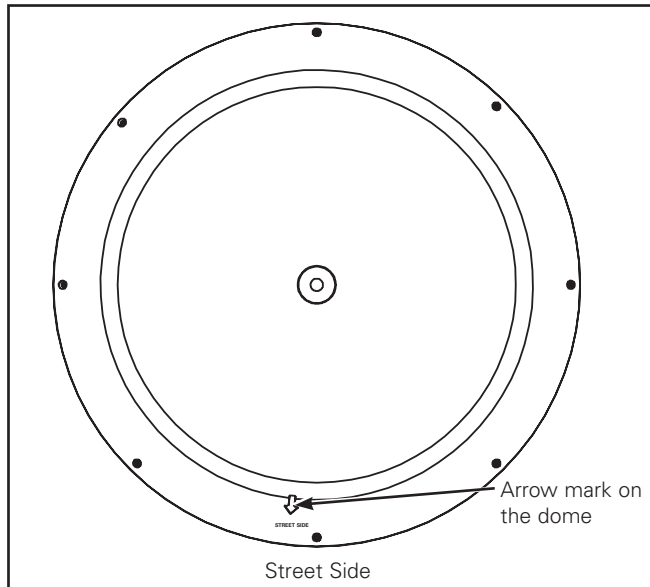

Figure 18.
7. For luminaire with asymmetric optics, rotate the fixture according to arrow mark on the dome towards the street side. (Figure 18.)